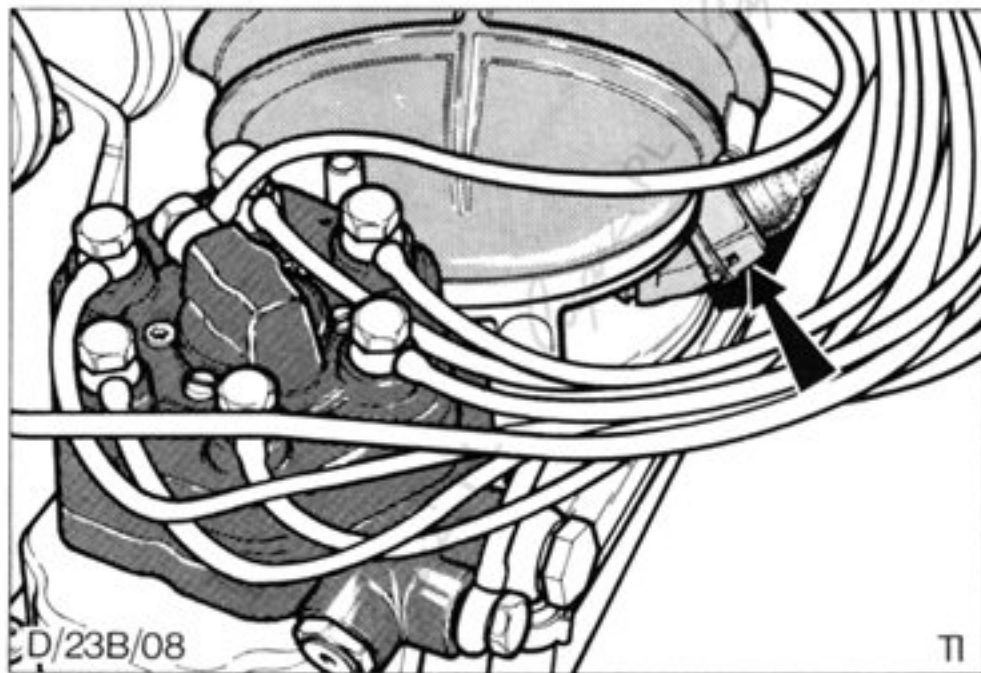

Fig.77. Air sensor plate safety switch reconnected.
- (i) Reconnect electric plug to safety switch on air sensor, Fig.77.
- (i) Disconnect electric plug from air sensor safety switch, Fig.77, and switch ignition 'on'. Fuel pump should now be operating.